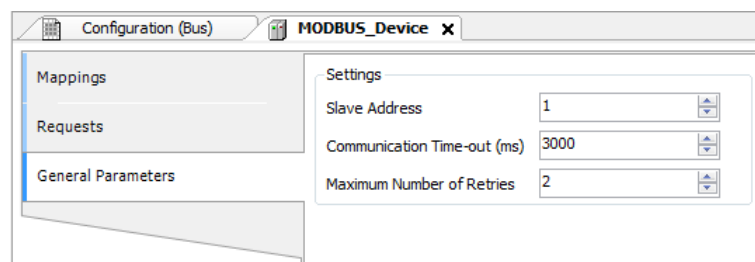

Figure 47: Device General Parameters Settings
- Add and configure devices via the General Parameters tab, defining the slave address, communication time-out and number of communication retries as can be seen in Figure 47.